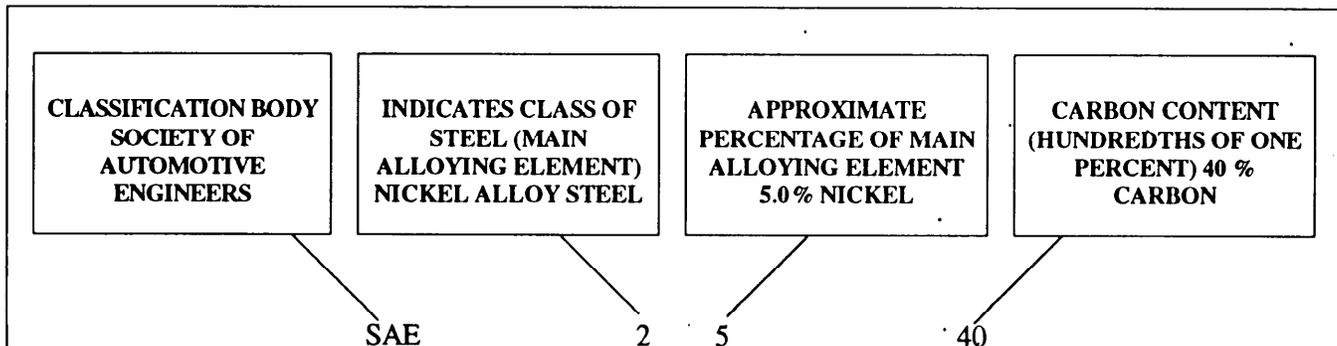

Figure 13-19.—SAE classification.
**SAE NUMBERING SYSTEM.**—The SAE numbering system uses a four-digit numbering system to identify the type of steel. Infix and suffix letters may be added to the numbering system. Each number has a significance as explained in the following paragraphs. Refer to figure 13-19.